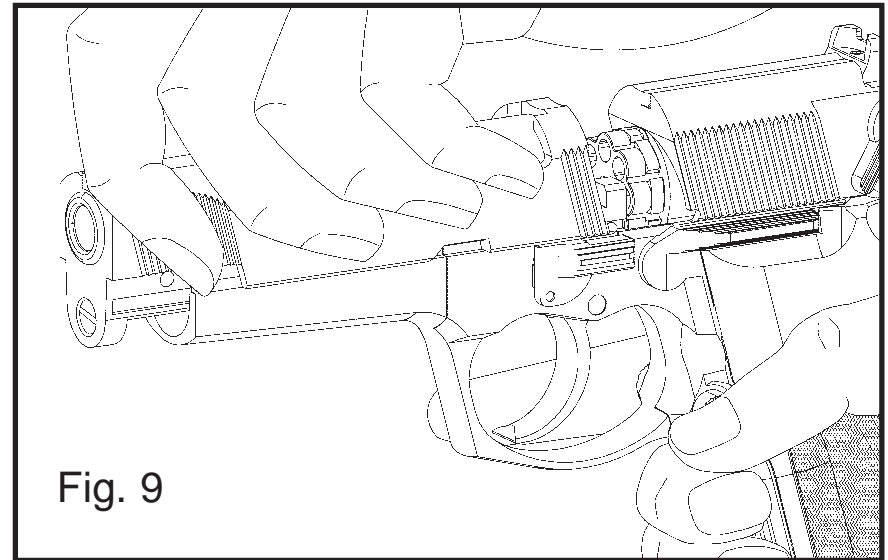

Fig. 9
- Grip the slide from the top (see Fig. 9) and move it rearward to the closed position.